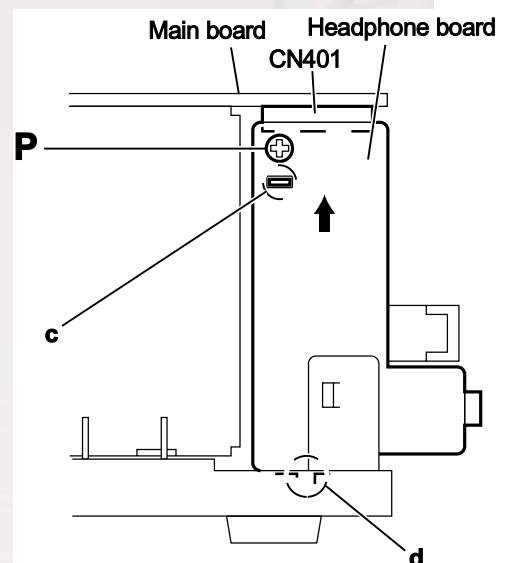

Fig.13
3.1.7 Removing the headphone board (See Fig.13)